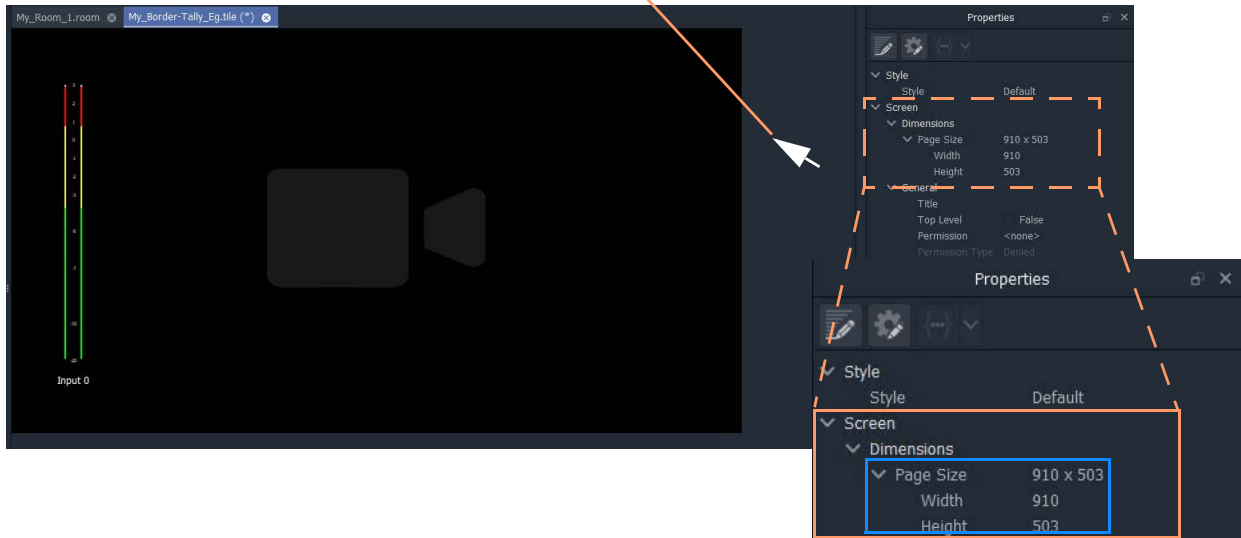

Fig. 17-25: Tile Size in Properties
- 3 Click off the Tile but in the **Tile Editor** stage area. See Figure 17-25.
In the example in Figure 17-25, the **Custom Tile**'s dimensions are: